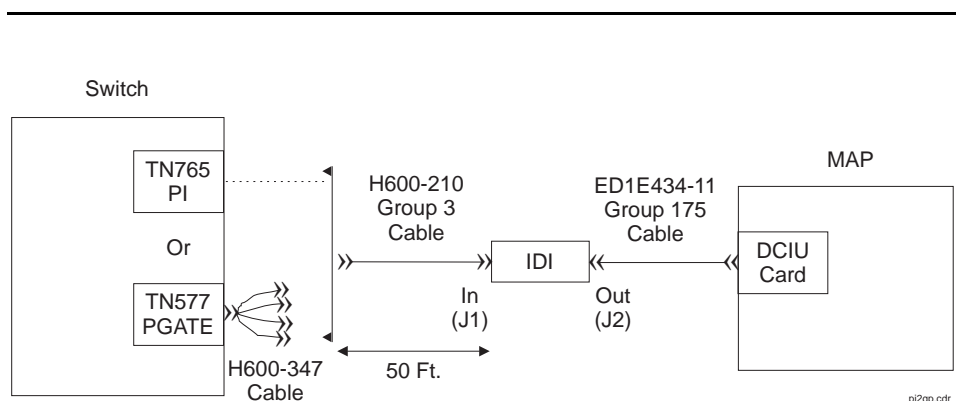

Figure 7. Switch-to-INTUITY admin link (X.25)
Figure 7 shows a detailed connection between a Processor Interface (PI) switch port (*si* system) or Packet Gateway (PGATE) switch port (*r* system) and the DCIU card on the MAP.